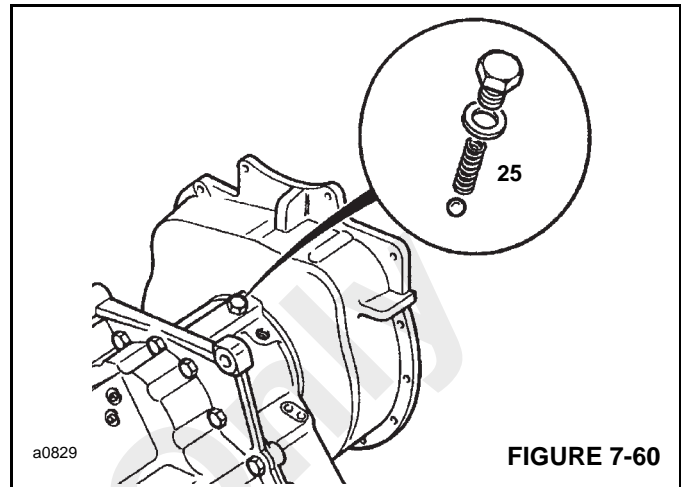

FIGURE 7-60
30. Install torque converter relief valve ball and tapered spring (25, Figure 7-60). Make sure that the larger diameter of the tapered spring is located securely over